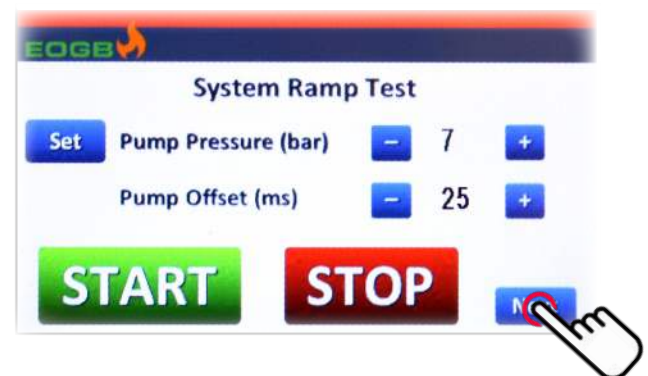

Fig. 11
Step 3 - On the "System Ramp Test Screen" Fig. 11, press the "Next" button in the bottom right hand corner to move through the different setting windows until you reach the "Run Time System Control Screen" Fig. 11 - 18